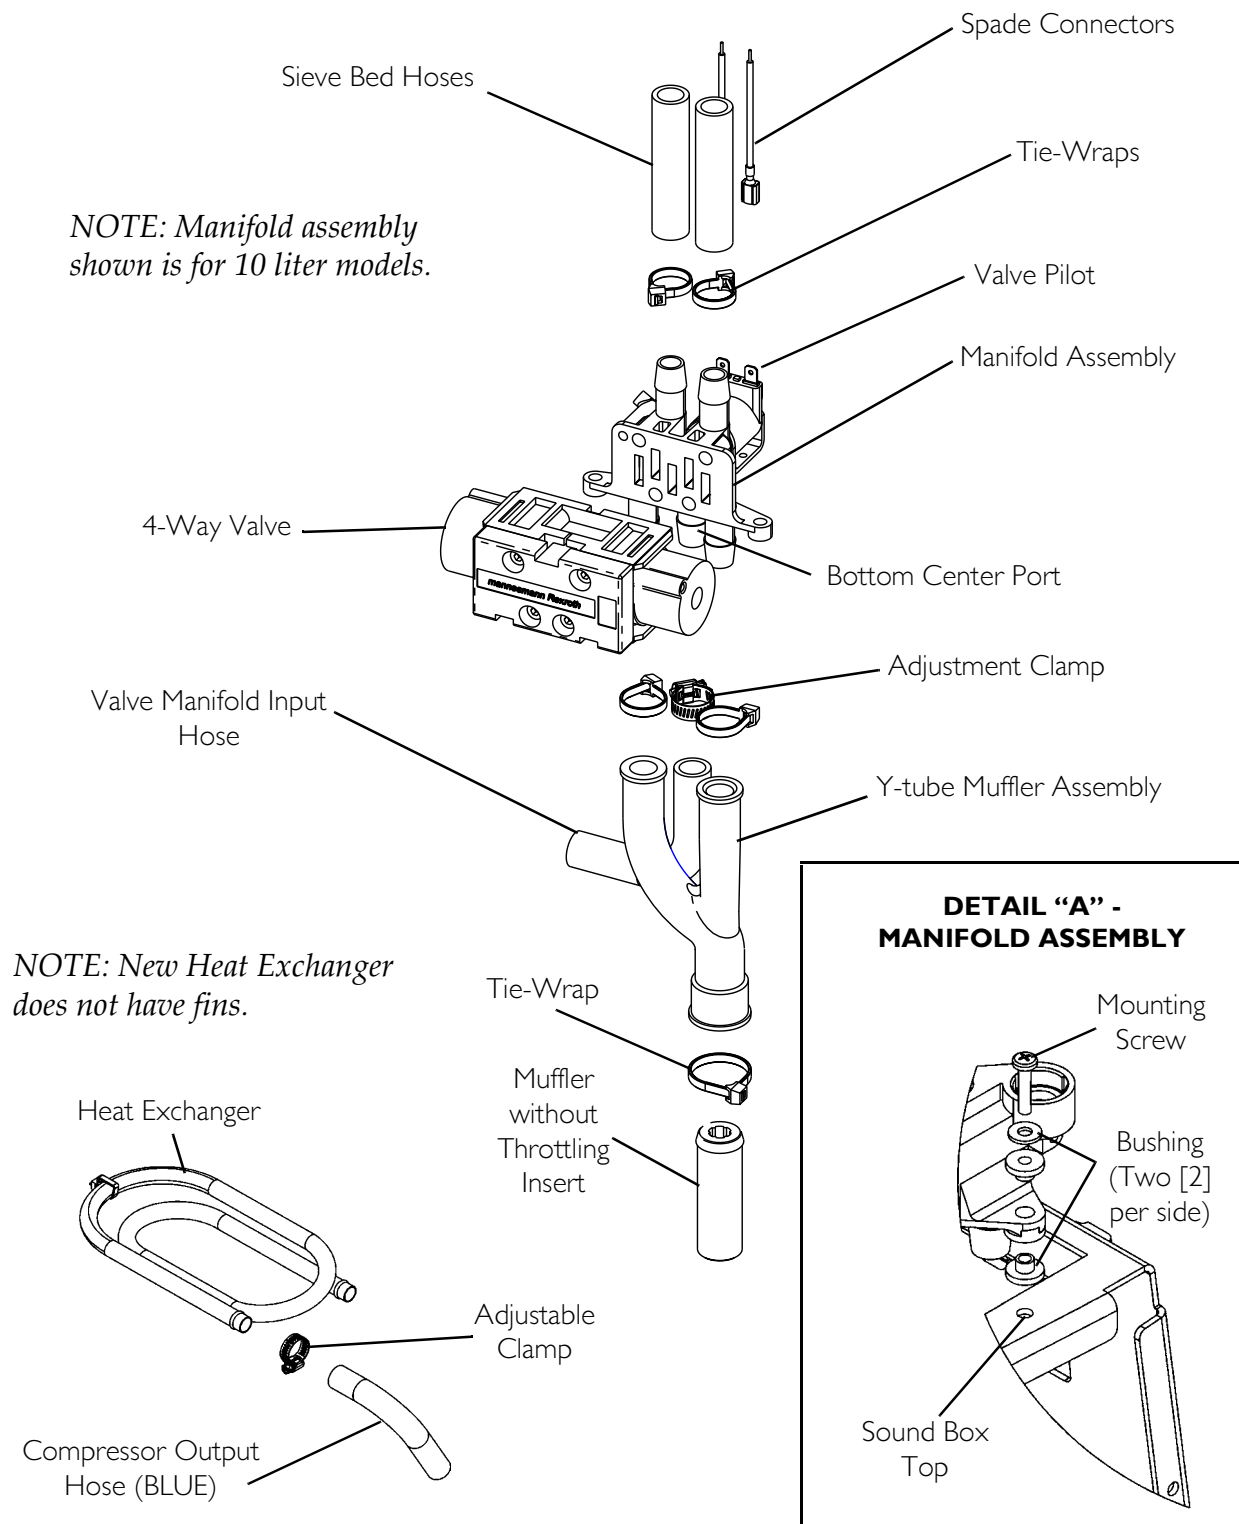
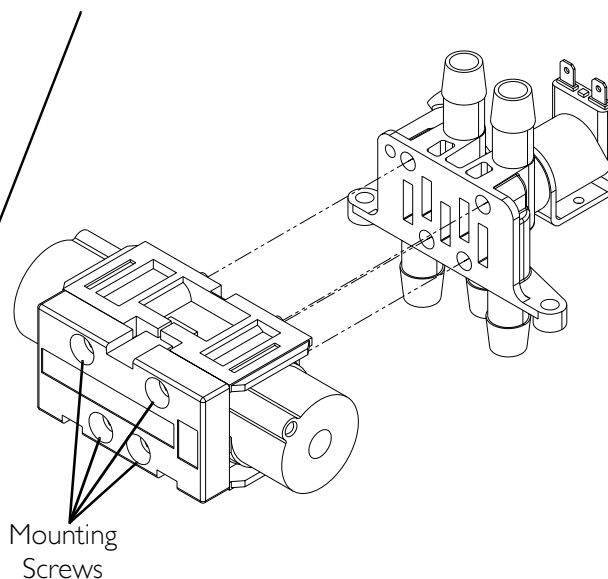

FIGURE 20.3 Replacing Manifold Assembly (Units Manufactured after 7/24/03)
FIGURE 20.4 Replacing Manifold Assembly (Units Manufactured after 7/24/03)
NOTE: For this procedure, refer to FIGURE 20.3 on page 78 and FIGURE 20.4 on page 80.
NOTE: Platinum XL and 10 Units manufactured after 7/24/03 are equipped with Y-tube muffler assembly as shown in FIGURE 20.3. This procedure applies to Platinum 5 units manufactured after 7/24/03.
9. Remove the two mounting screws, washers (one per side) and bushings (two per side) securing the 4-way valve/manifold assembly to top of sound box (Detail “A” of FIGURE 20.3).
- D. Pre-torque the mounting screws to 10 ± 2 inch-lbs using the torque sequence (FIGURE 20.4).